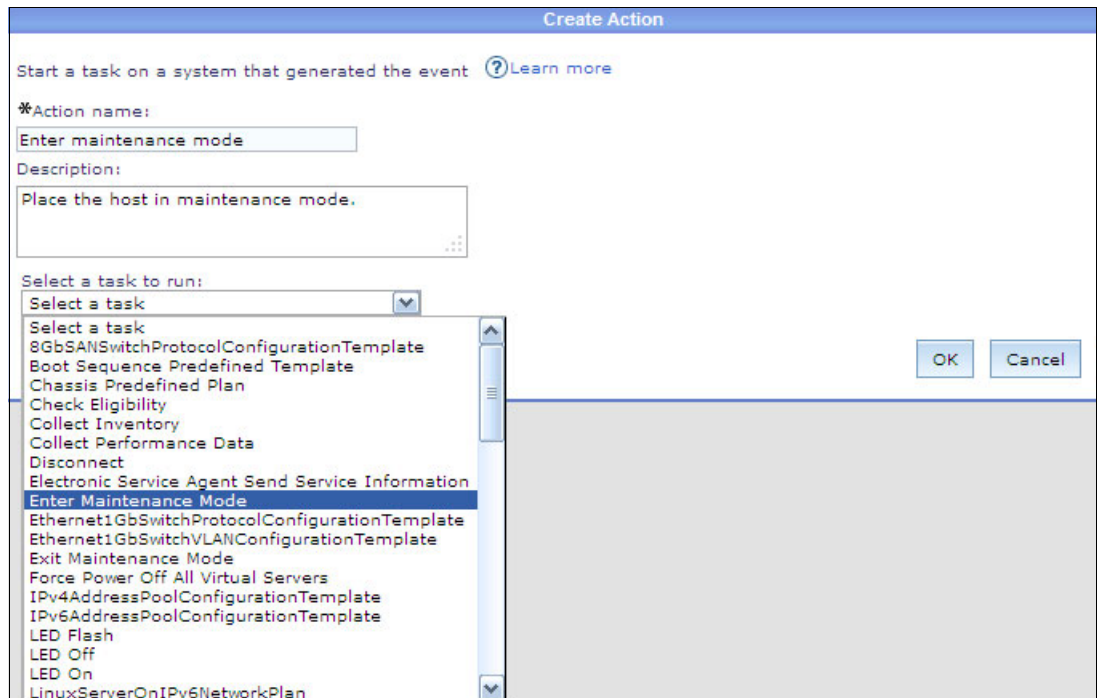

Figure 11-73 Create Action window action properties
- Enter an action name and description for the event action and select **Enter Maintenance Mode** from the Select a task to run menu, as shown in Figure 11-73. Get familiar with the broad choice of tasks that you can run as an action. Click **OK**.